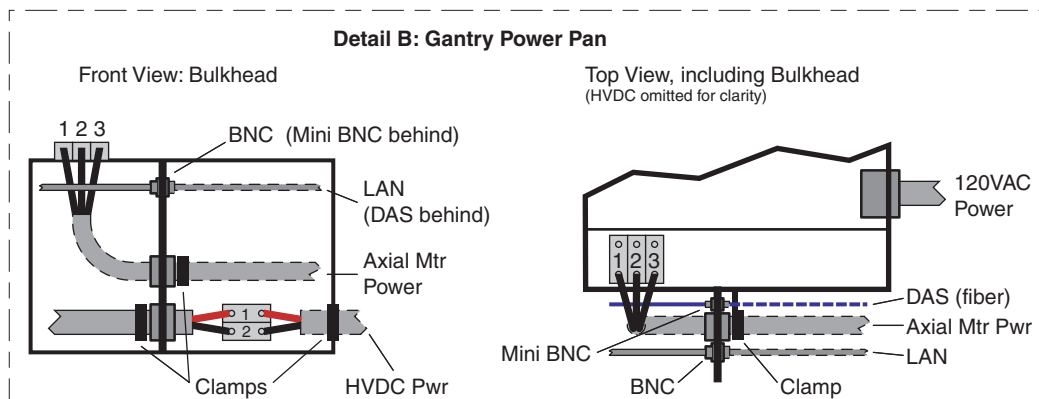

Figure 2-18 Power Pan Connections
- 2.) Install the cables to the gantry power pan. The power pan is located on the rear of the gantry at its base. (See "Detail B" Figure 2-18 of the system interconnect drawing for connections.)
Observe the correct phase rotation when connecting the axial motor power. Phases one, two and three should be connected left to right, as shown in Figure 2-18.